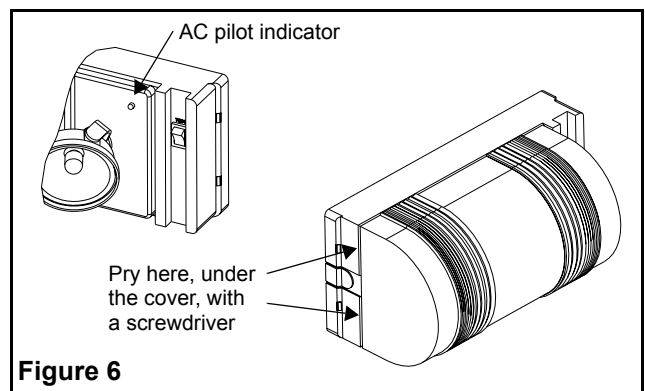

Figure 6
- 9. Remove the clear lens by prying with a screwdriver, under the cover on the conduit side (see fig. 6).
- 11. Energize AC. The AC pilot indicator, located under the cover, will illuminate (see fig. 6).